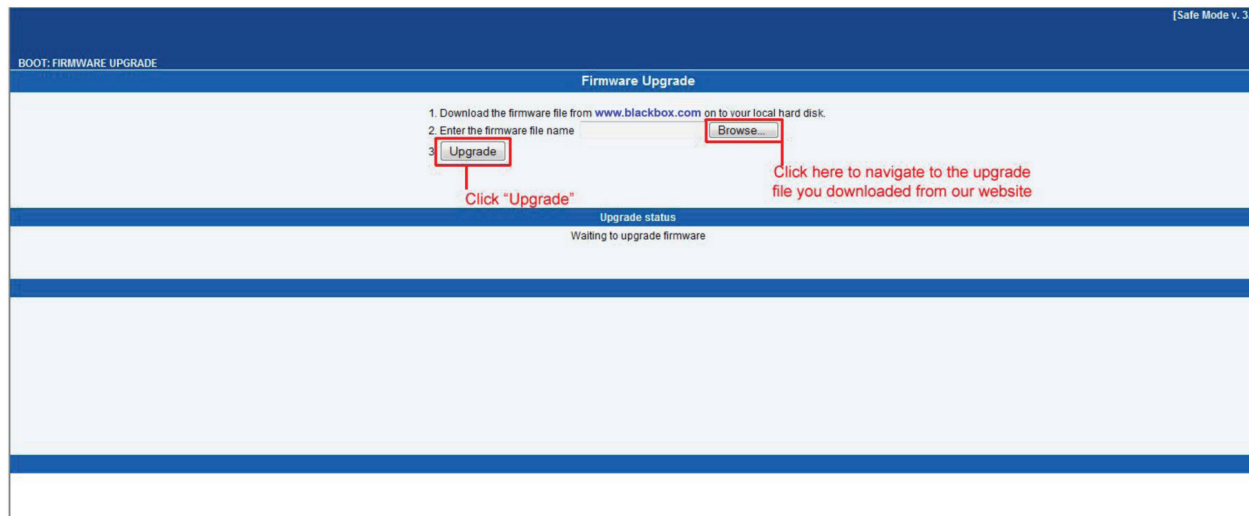

Figure 3-11. Upgrade button.
5. After the ServSensor reboots, the page shown in Figure 3-11 appears. Click “Browse” and navigate to the firmware file you downloaded, then click “Upgrade.”